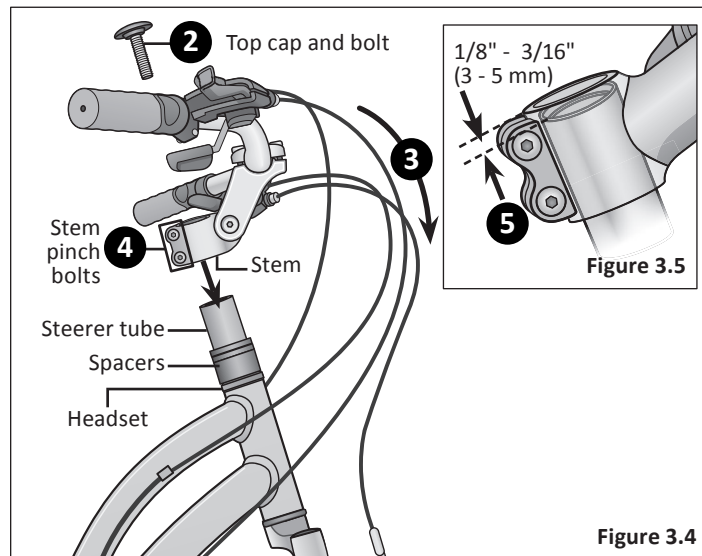

Figure 3.4
- ❷ Using a 5 mm Allen wrench loosen the top cap bolt on the steerer tube and remove the top cap and bolt. **Important! Do not** remove the spacers. **Figure 3.4**
- ❸ Position the handlebar assembly over the steerer tube. Look at all the cables to be sure they run in a smooth arc from the shifter or brake lever to the front brake or cable stop on the frame. **Important!** If they are twisted or kinked, the shifting and braking will not work.
- ❹ While holding the fork assembly in place, use a 6 mm Allen wrench and loosen the stem pinch bolts. Slide the handlebar assembly onto the steerer tube.